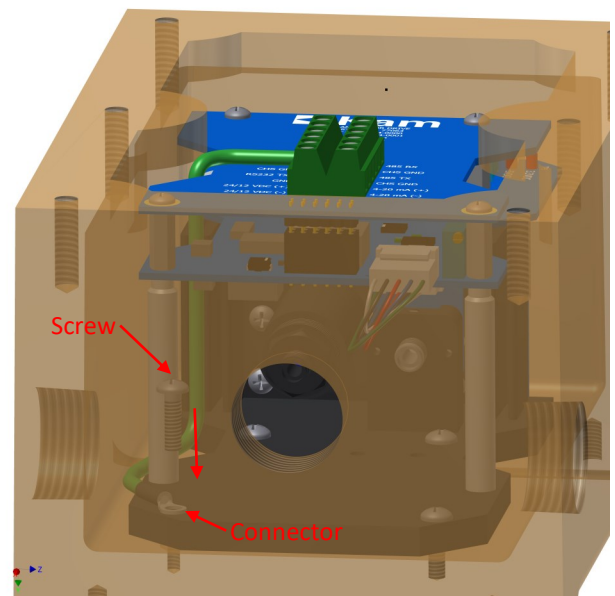

Figure 1.3.11
11. Secure the round connector end of the chassis cable with one (1) 6-32 x 1/2" Pan Phillips Screws. See figure 1.3.11.